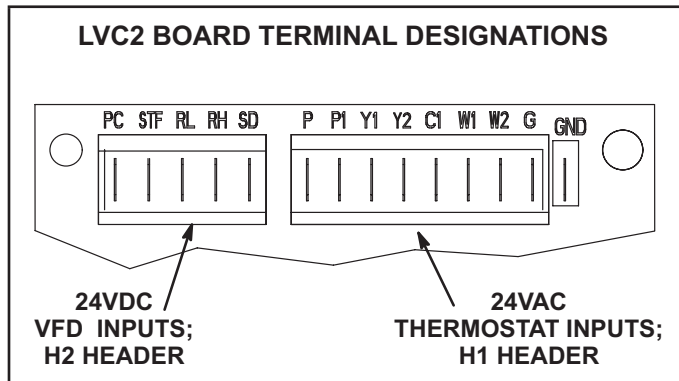

FIGURE 17
- 3 - Check for 24VAC signal at the thermostat blower input (G to GND terminal). See FIGURE 17.